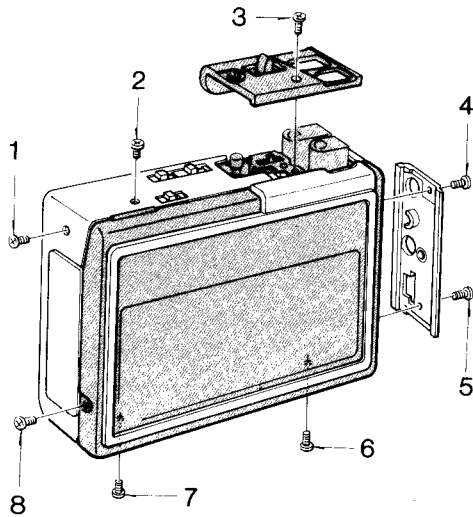

Fig. 1
- 1) ビス8本をはずす。(Fig. 1 参照)
- 1) Remove the eight screws. (See figure 1)